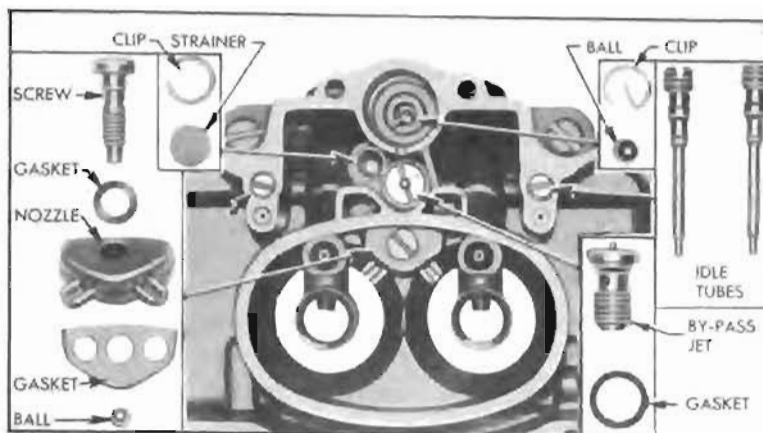
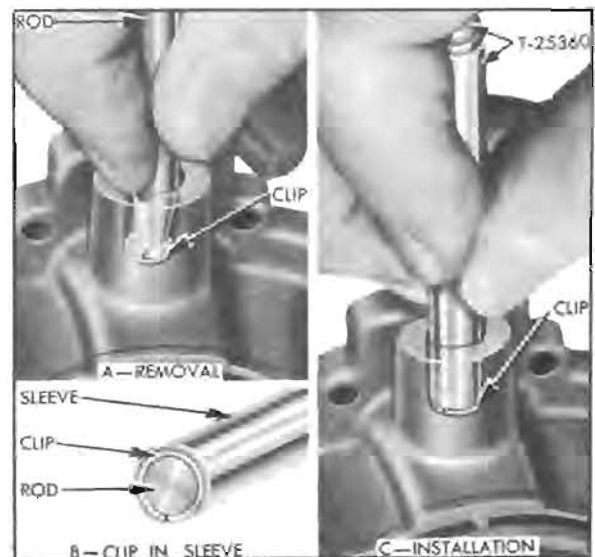

Figure 3-62—Parts in Main Body
Figure 3-67—Removing and Installing Retainer Clip
9. Remove power by-pass jet and gasket, and both idle tubes from main body. See figure 3-62.
10. Remove pump discharge nozzle screw, nozzle and gaskets. Place hand on top of main body and invert body to catch the check valve ball located in discharge channel. See figure 3-62.
11. Remove pump check valve ball retainer clip, using long nosed pliers, then remove check valve ball. See figure 3-62.
Replace inlet strainer if it is damaged or clogged so that it cannot be thoroughly cleaned, using Retainer Clip Replacer T-25360. Use small end of rod of tool to remove retainer clip. To install clip, place it in tapered end of tool sleeve then use rod inside sleeve to push clip into place. See figure 3-67.
Replace pump strainer if it is damaged or clogged so that it cannot be thoroughly cleaned. Use Retainer Clip Replacer T-25360 as previously explained but use shouldered end of sleeve for installing retainer clip. See figure 3-67.
10. Place check valve ball in bottom of pump cylinder and install retainer clip, using Replacer T-25360 (fig. 3-67) or long nosed pliers. Inner end of clip must point down towards ball. See figure 3-62.
11. Install pump discharge channel check ball, then install *new* nozzle gasket, discharge nozzle, and nozzle screw with *new* gasket. See figure 3-62.
pass jet with a *new* gasket. See figure 3-62.